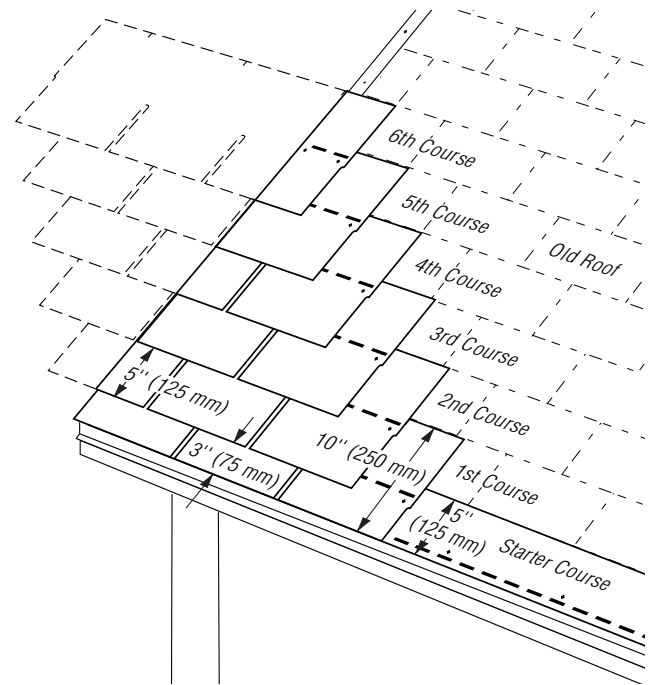

Figure 10-20: Six Off, Six Up, Nested.
2. Cut 6" off either side of the first starter shingle and install it over the first course of the old shingles, at the lower left corner (Figure 10-20).
1. The first course is made of 10" by 36" shingle strips made by cutting 2" off the bottom of the tabs of regular shingles (Figure 10-20).
1. Cut 6" off the left end of a full shingle. Butt the top edge of this 12" by 30" piece of shingle up against the bottom edge of the shingle in the old fourth course. Make the left edge align with the first-course left edge (*Figure 10-20*).
2. Apply this 24" piece of shingle over the second course, leaving the 5" tabs of the second course exposed. The top edge of the new shingle in this course should butt up against the bottom of the fifth course of old shingles (*Figure 10-20*).